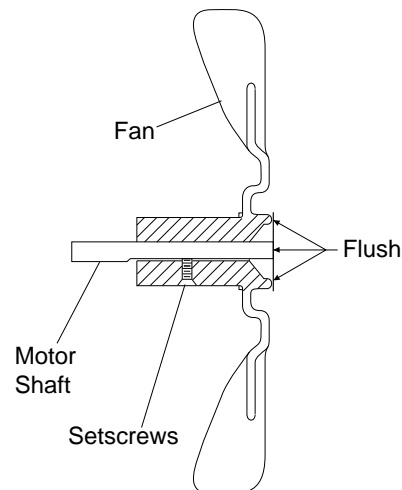

Figure 10 - Fan Cross Section
6. Replace fan on motor shaft. Place fan hub flush with end of motor shaft (see Figure 10).